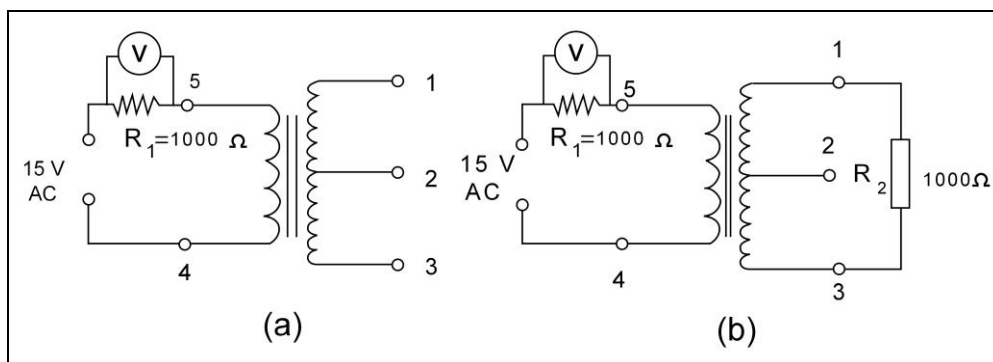

Fig. 1-5 Secondary Load Increasing Primary Current
27. Using the transformer and a 1k Ohm resistor, connect the circuit shown in Fig. 1-5(a). Leave pins 1, 2, and 3 open.